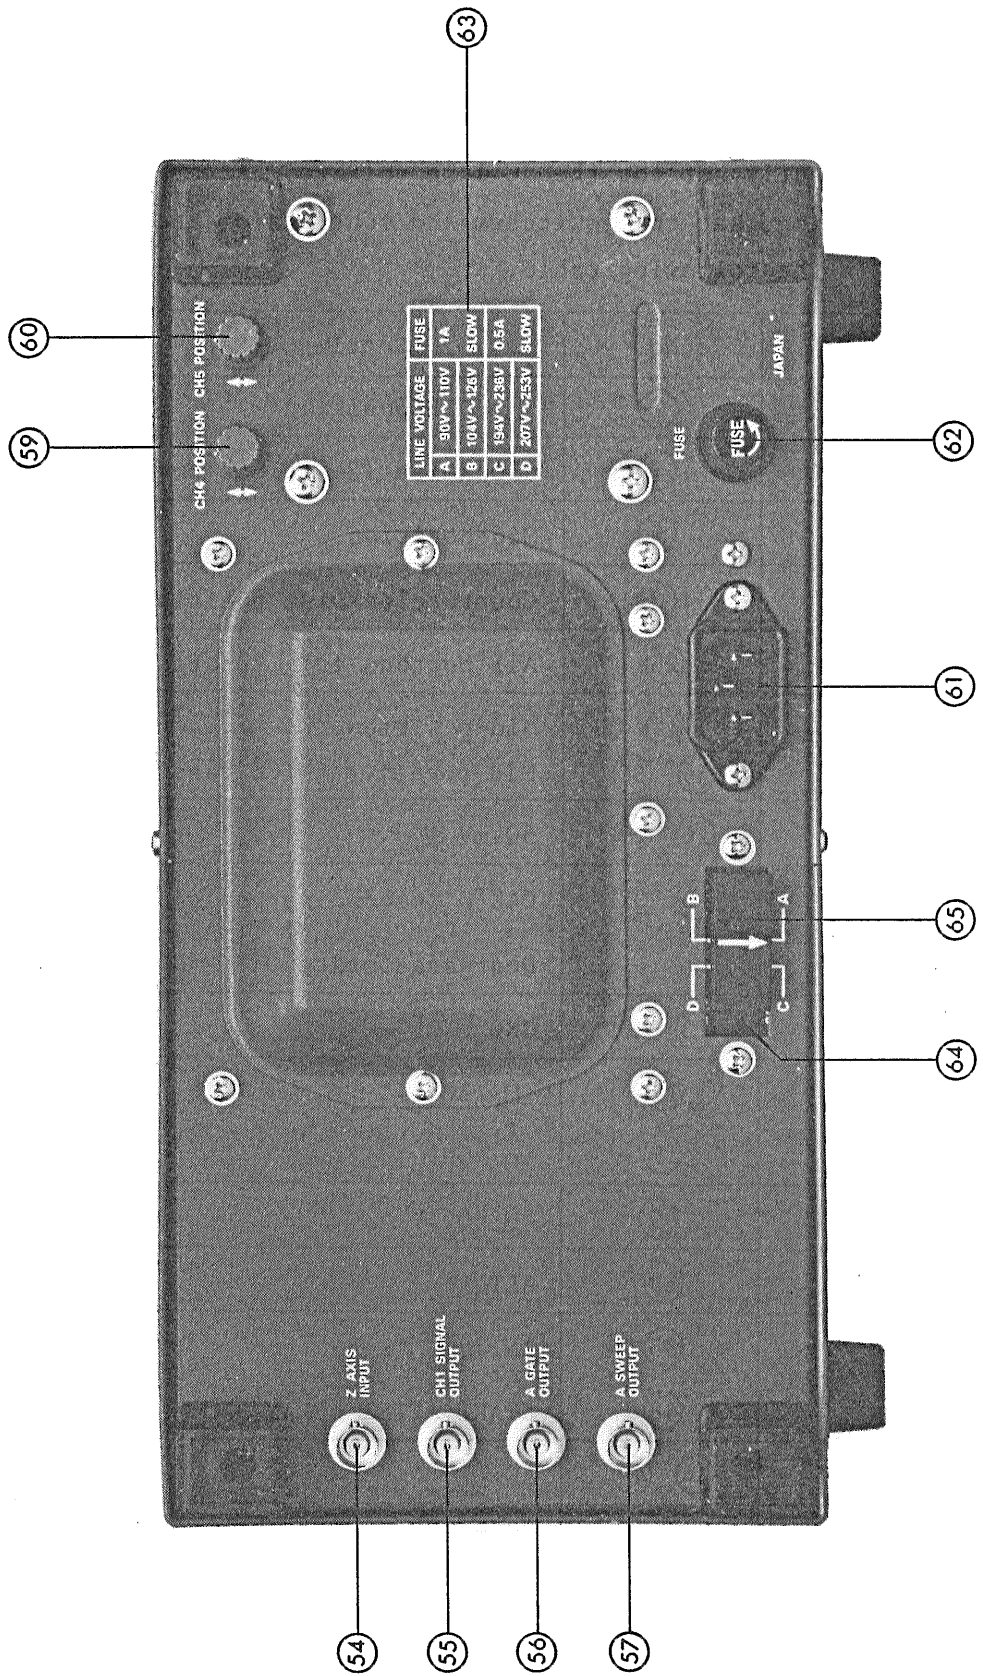

Figure 4-2
⑤③ Ground terminal of oscilloscope mainframe.
4.2 Explanation of Rear Panel (See Figure 4-2.)